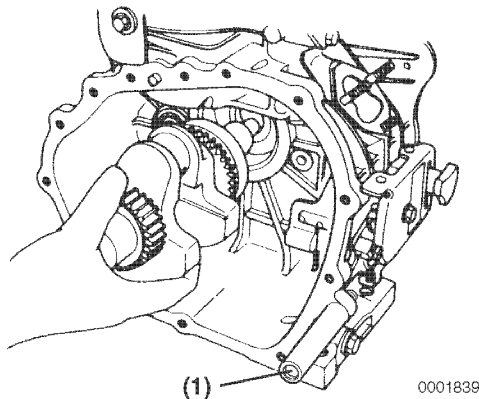

Figure 6-49
17. Remove the crankshaft from the open end of the crankcase. It will be necessary to use a heavy soft-faced hammer to drive the crankshaft out of the crankcase and drive the large main bearing out. Reinstall the flywheel nut to protect crankshaft threads while driving crankshaft and large bearing out. Keep crankshaft aligned as it is driven out by supporting the opposite crankshaft end (Figure 6-49).
Do not attempt to adjust or remove the fuel limiter (Figure 6-49, (1)) assembly from the crankcase.